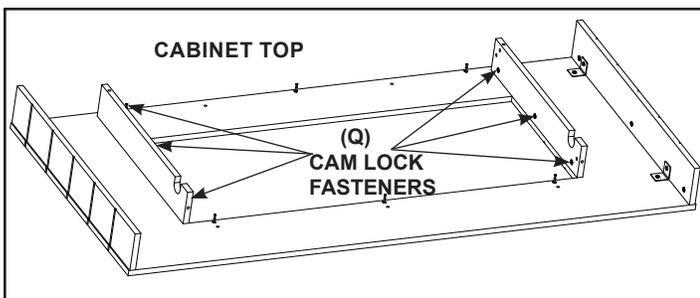

Figure 12
- Turn each of the six (6) Cam Lock Fasteners (Q) clockwise 1/4 turn shown in Figure 12 . Refer to Step 4.